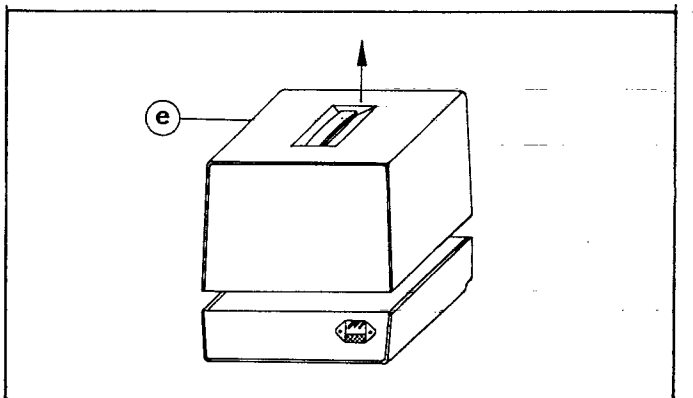

Fig. 8.2 ▼
- Place the unit in the normal position and remove upper part ⑤ (Fig. 8.2).